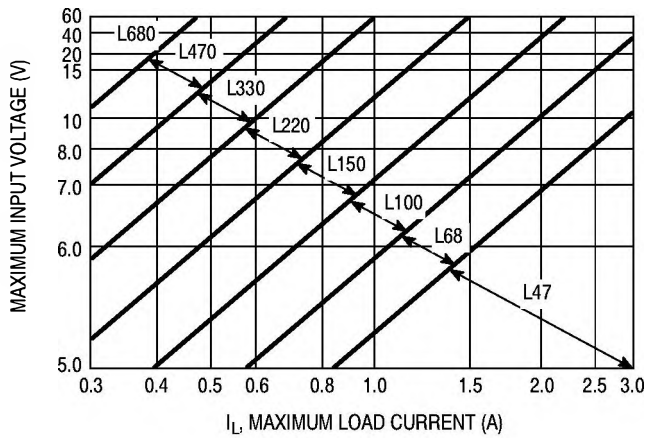
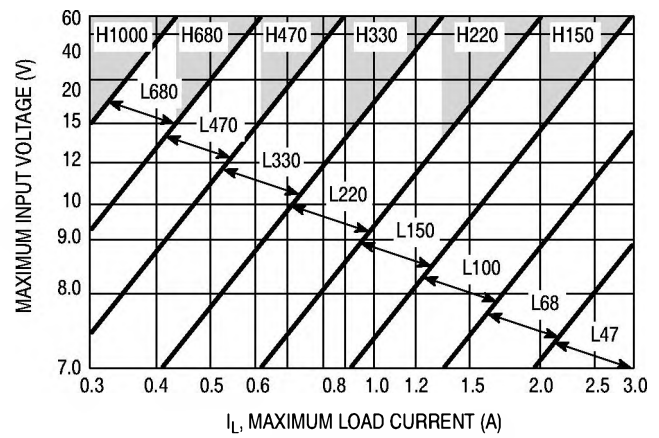

Figure 18. LM2576-3.3
Figure 19. LM2576-5
4. Inductor Selection (L1) A. According to the required working conditions, select the correct inductor value using the selection guide from Figures 18 to 22. B. From the appropriate inductor selection guide, identify the inductance region intersected by the Maximum Input Voltage line and the Maximum Load Current line. Each region is identified by an inductance value and an inductor code. C. Select an appropriate inductor from the several different manufacturers part numbers listed in Table 2. The designer must realize that the inductor current rating must be higher than the maximum peak current flowing through the inductor. This maximum peak current can be calculated as follows: $I_{p(max)} = I_{Load(max)} + \frac{(V_{in} - V_{out}) t_{on}}{2L}$ where t_{on} is the "on" time of the power switch and $t_{on} = \frac{V_{out}}{V_{in}} \times \frac{1.0}{f_{osc}}$ For additional information about the inductor, see the inductor section in the "Application Hints" section of this data sheet.	4. Inductor Selection (L1) A. Use the inductor selection guide shown in Figures 19. B. From the selection guide, the inductance area intersected by the 15 V line and 3.0 A line is L100. C. Inductor value required is 100 μ H. From Table 2, choose an inductor from any of the listed manufacturers.
To simplify the inductor selection process, an inductor selection guide for the LM2576 regulator was added to this data sheet (Figures 18 through 22). This guide assumes that the regulator is operating in the continuous mode, and selects an inductor that will allow a peak-to-peak inductor ripple current to be a certain percentage of the maximum design load current. This percentage is allowed to change as different design load currents are selected. For light loads (less than approximately 300 mA) it may be desirable to operate the regulator in the discontinuous mode, because the inductor value and size can be kept relatively low. Consequently, the percentage of inductor peak-to-peak current increases. This discontinuous mode of operation is perfectly acceptable for this type of switching converter. Any buck regulator will be forced to enter discontinuous mode if the load current is light enough.